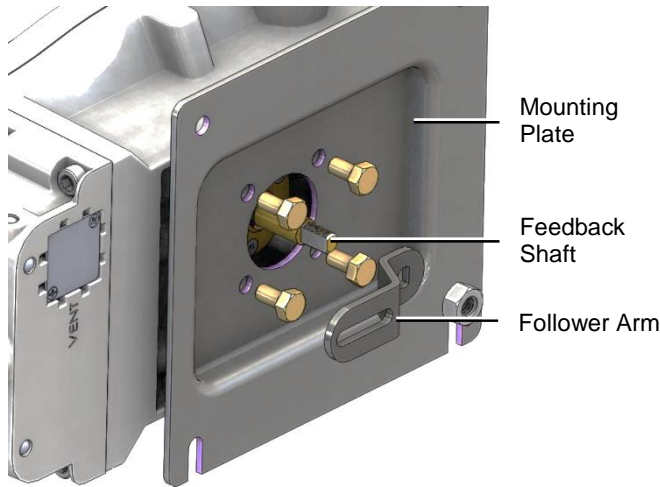

Figure 15: MaxFlo Follower Arm
- 2 Attach the mounting plate to the positioner using four screws and attach follower arm to positioner feedback shaft. See Figure 15: MaxFlo Follower Arm and Figure 16: MaxFlo Connection.